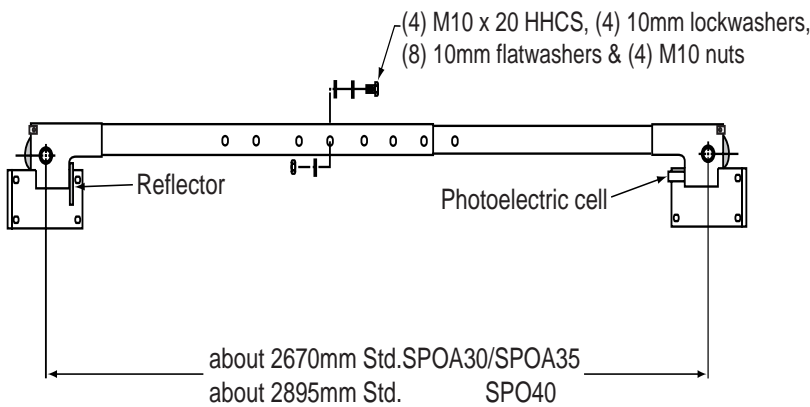

Fig. 5
**6. Overhead Assembly:** Adjust overhead to appropriate dimension, Fig. 5. Install (4) M10 x 20 HHCS, (4) 10 mm lockwashers, (8) 10 mm flatwashers and (4) M10 nuts and tighten, Fig. 5.